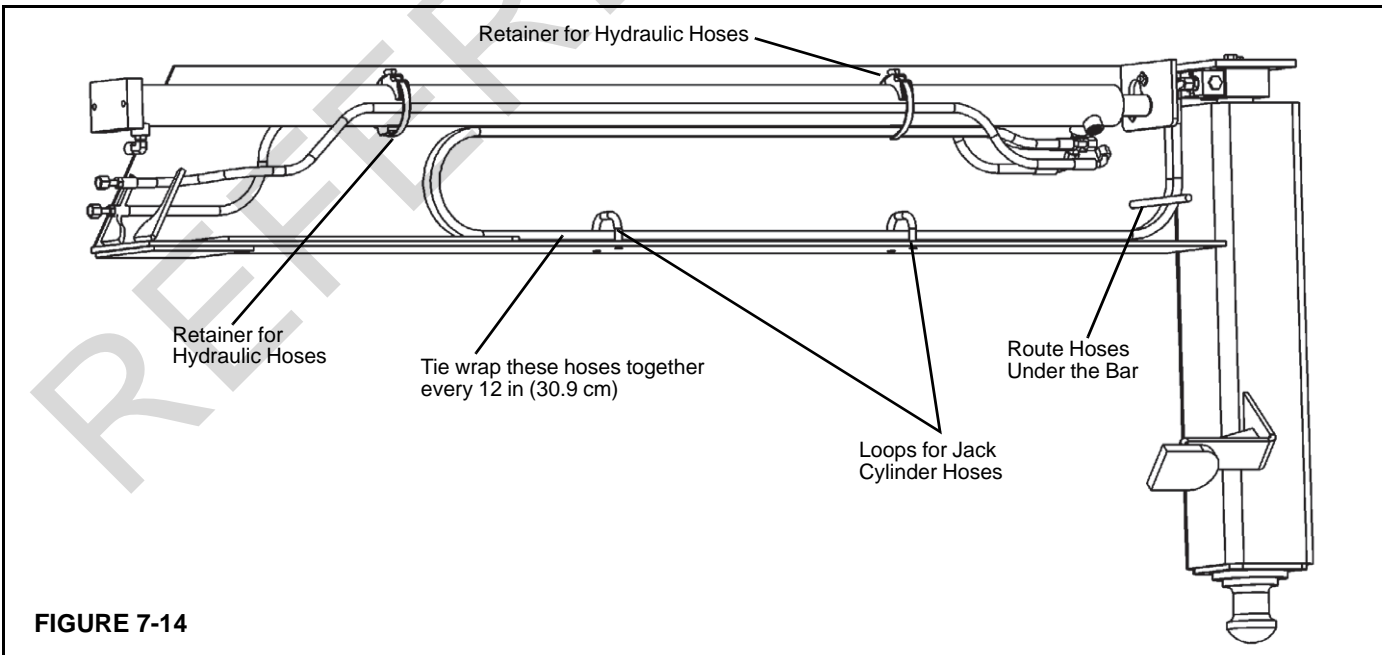

FIGURE 7-14
2. Secure the hydraulic hoses with the retainers as shown in (Figure 7-14). Run the jack hoses through the loops at the bottom and end of the beam. Tie wrap the jack hoses together every 12 in (30.48 cm).
3. Slide the extension cylinder into the outrigger beam. Make sure the jack hydraulic hoses are routed as shown in Figure 7-14.